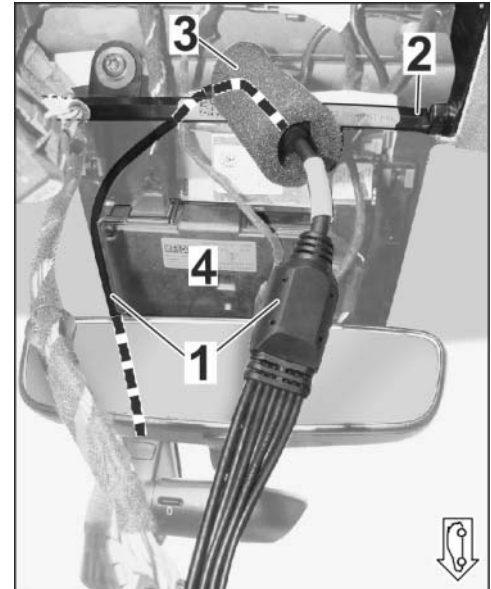

Figure 13
2.3.2 Guide front camera (dashcam) wiring harness to the left past the driver assistance systems control unit (if installed) under the headliner frame to the roof console. ⇒ *Figure 13*